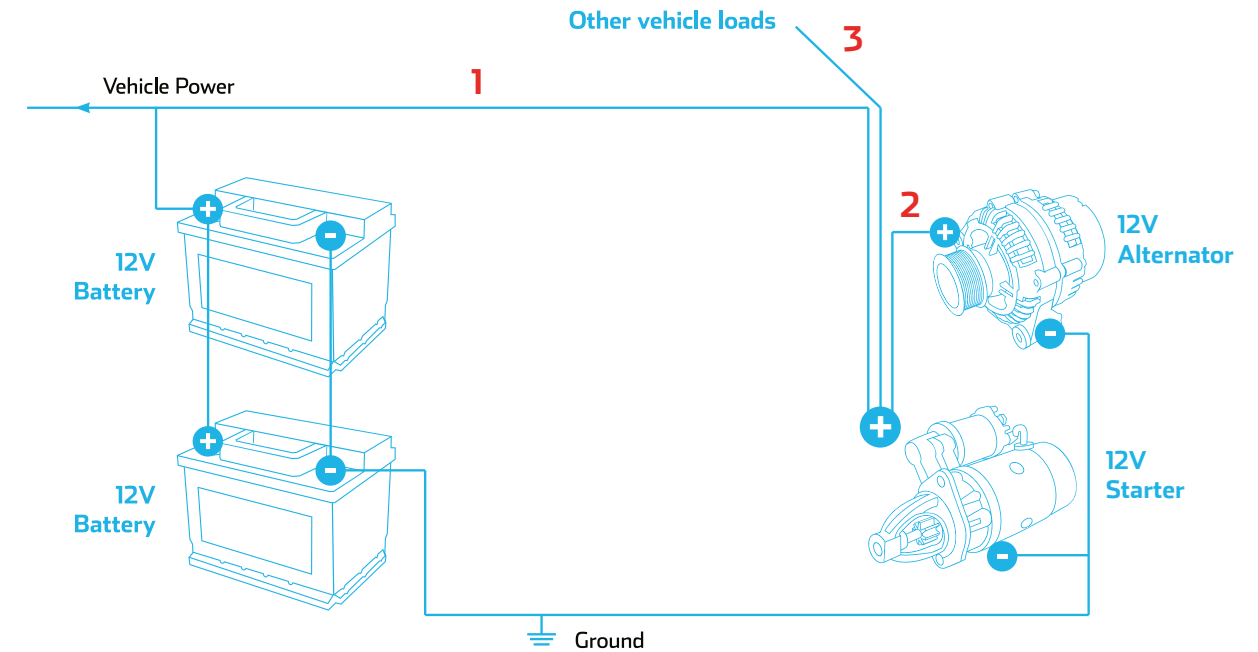

Fig 2. 12V system before SkelStart™ installation
2. Most vehicle manufacturers connect the alternator and other vehicle power cables to the starter solenoid's positive terminal. Therefore, all the cables connected to the Starter Solenoid's positive terminal need to be removed (Fig. 2 cables 1, 2, 3 - cable 3 can consist several cables). Note: the starter can include an integrated magnetic switch, in which case the short cable from the magnetic switch to the starter can remain connected to the positive starter terminal.